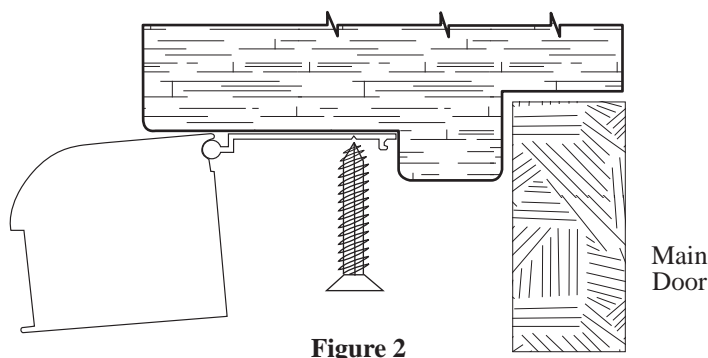

Figure 2
Carefully, making sure not to damage the screen, install the Housing hinge against the stop in the jamb using three (3) #6 x 1" flat-head screws provided (Figure 2). Butt the hinge against the stop in the jamb as shown, and screw it into place.